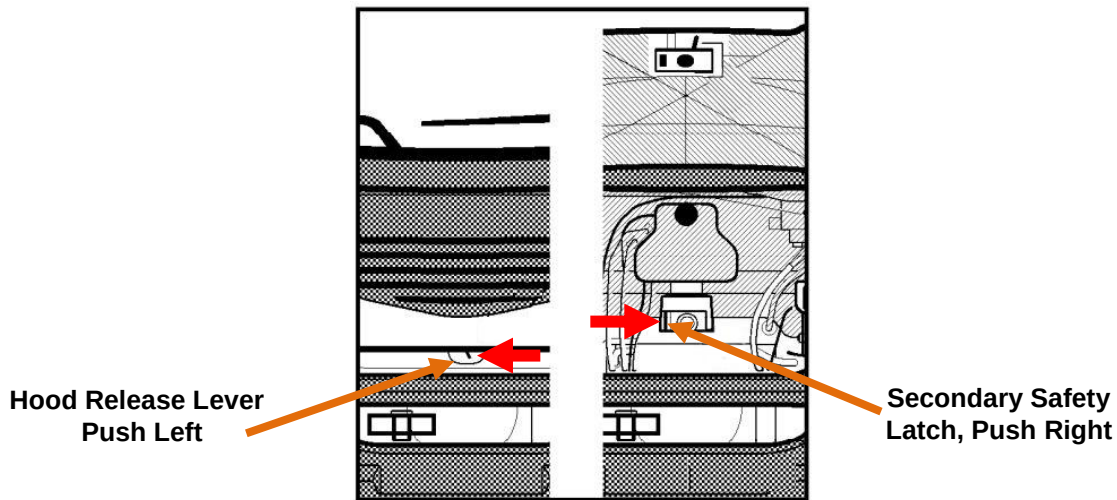

Figure 10.10
- Release the Secondary Safety Latch by reaching up under the hood and press the secondary latch to the right. (Figure 10.10)